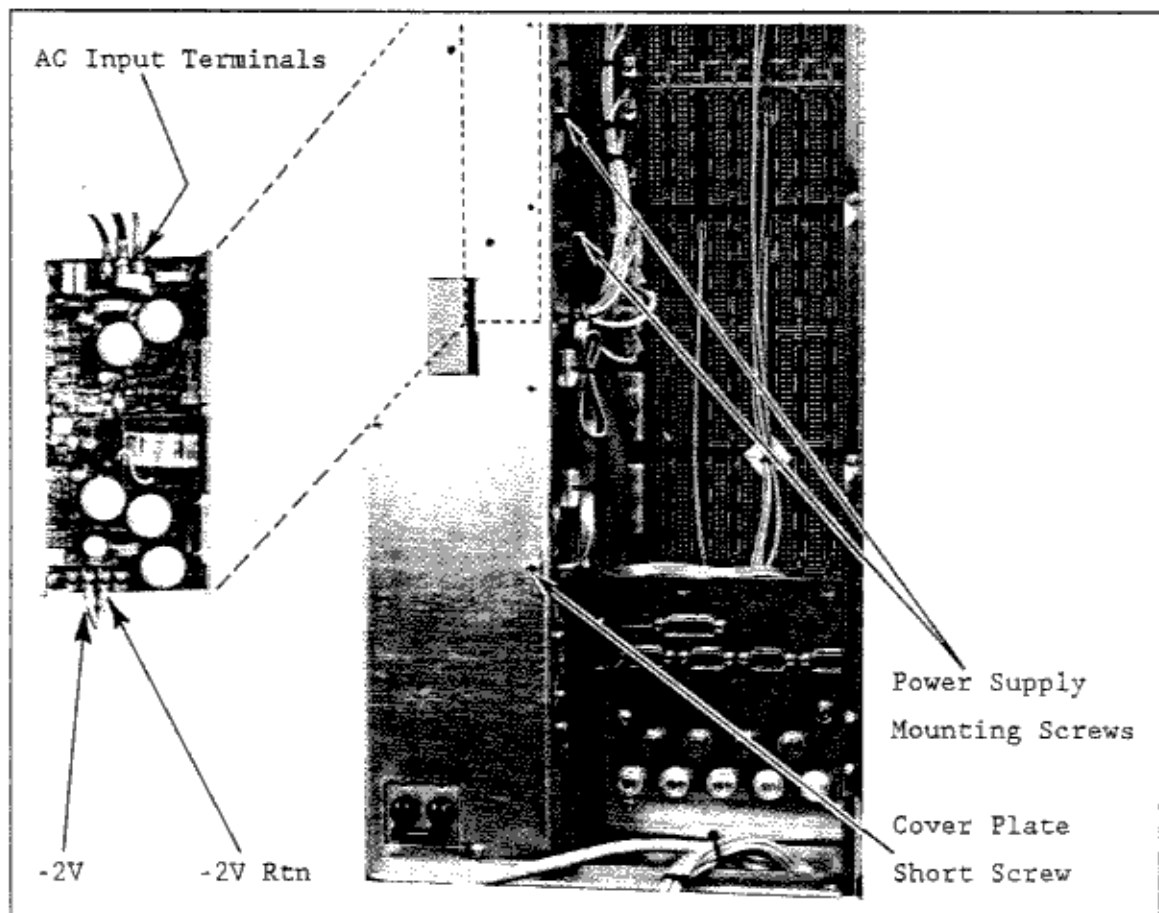

FIGURE 5-5 -2 VOLT POWER SUPPLY
4. Referring to Figure 5-5, locate and disconnect three input leads (black, white, green, at the top) and two -2V output leads (at the bottom) from the supply.
6. When replacing the large cover plate, be sure the short screw is installed in the bottom hole (Figure 5-5).